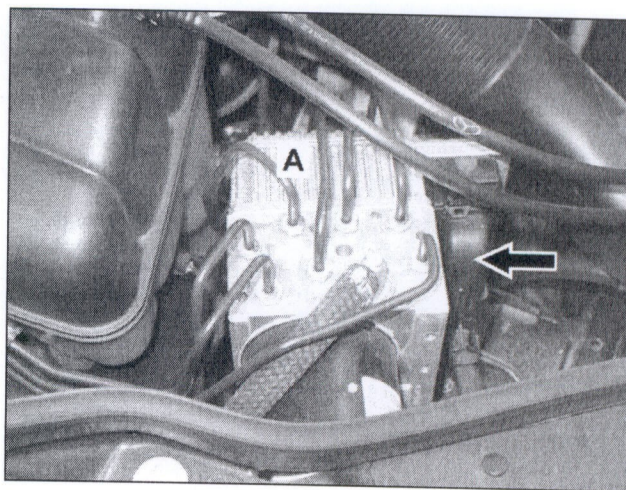
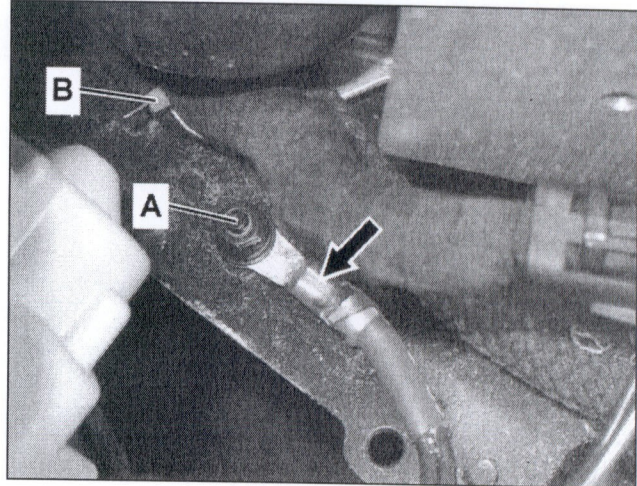

Figure 2a
Figure 3
3. Disconnect SBC hydraulic unit harness connector (arrow, Figure 2a) from SBC hydraulic unit (A) and remove cable tie (B, Figure 3).
4. Detach the SBC hydraulic unit ground wire harness (arrow, Figure 3) at ground terminal stud (A).
5. Position SBC harness connector (arrow, Figure 2a) away from SBC hydraulic lines to prevent brake fluid from dripping on SBC harness connector and SBC wiring harness.